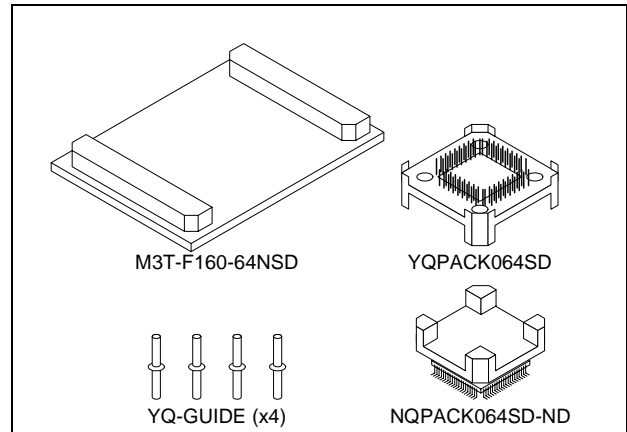

Figure 1 Package components of the M3T-F160-64NSD
2. Package Components (See Figure 1)